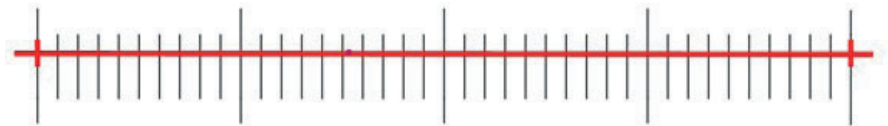

Figure 5-8
- The minimum range of the selected micrometer is 0.01 mm (10 microns). Figure 5-8 shows the image under a 10x objective lens. At this time, set the “magnification” to “10X,” the “unit” to “μm,” and the “length” to “40.”